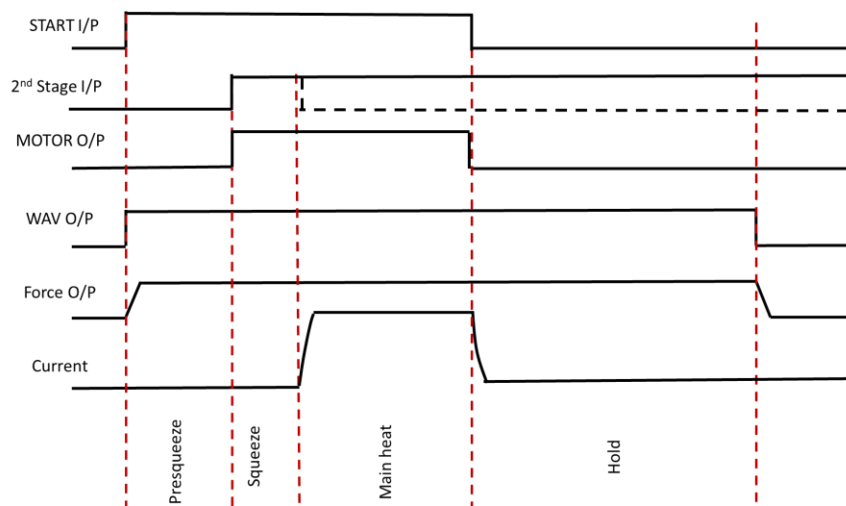

Figure 47: Seam Weld Timing Diagram – Second Stage Before Squeeze
The weld program (schedule) to be programmed will follow the Seam Weld timing diagram shown in Figure 47. This example is based on a machine with the configuration defined below:
The steps to program the Weld Program in Figure 47 are as follows:
24) The Spot Weld program corresponding to the seam welding timing diagram in **Figure 47** has now been stored in the iPAK2v2 weld control and it is ready for use.